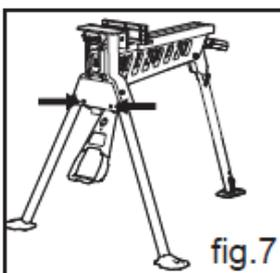

fig.7
5. Turn the portable stand vise into an upright position. Ensure all legs are locked firmly in position, checking the front leg lock indicators (9) are showing the locked symbol. (See fig. 7)
6. The rear handle (17) is self-assembly. Fit the spacer tube between the bracket and fasten the handle in position with the bolt and locking knob provided.